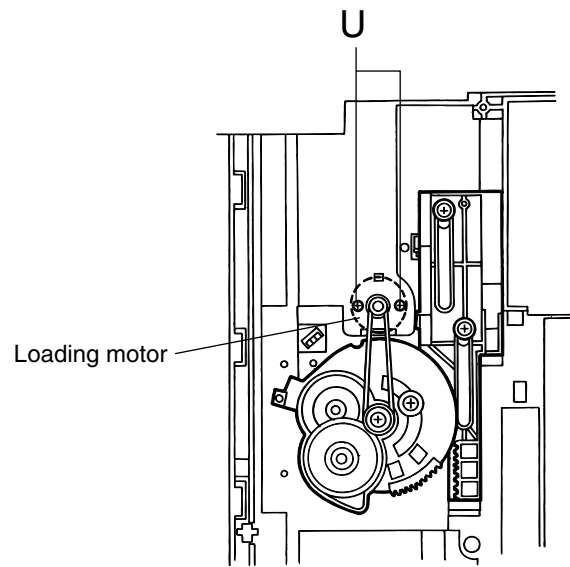

Fig.24
■ Removing the loading motor / loading motor board (See Fig.24 and 25)